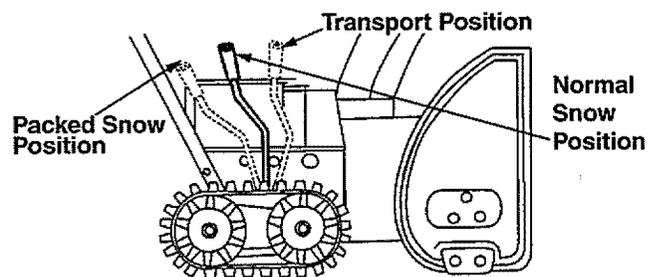

Figure 16
- To check the adjustment of the traction drive control and shift lever, move the weight transfer lever to the transport position (shown in Figure 16 on page 13) and the shift lever all the way forward to sixth (6) position.
- Return weight transfer lever (shown in Figure 16) to normal position before adjusting skid shoes.
The weight transfer lever is located on the right side of the snow thrower and is used to select the position of the housing and the method of track operation. See Figure 16. Move the lever to the right, then forward or backward to one of the three positions.